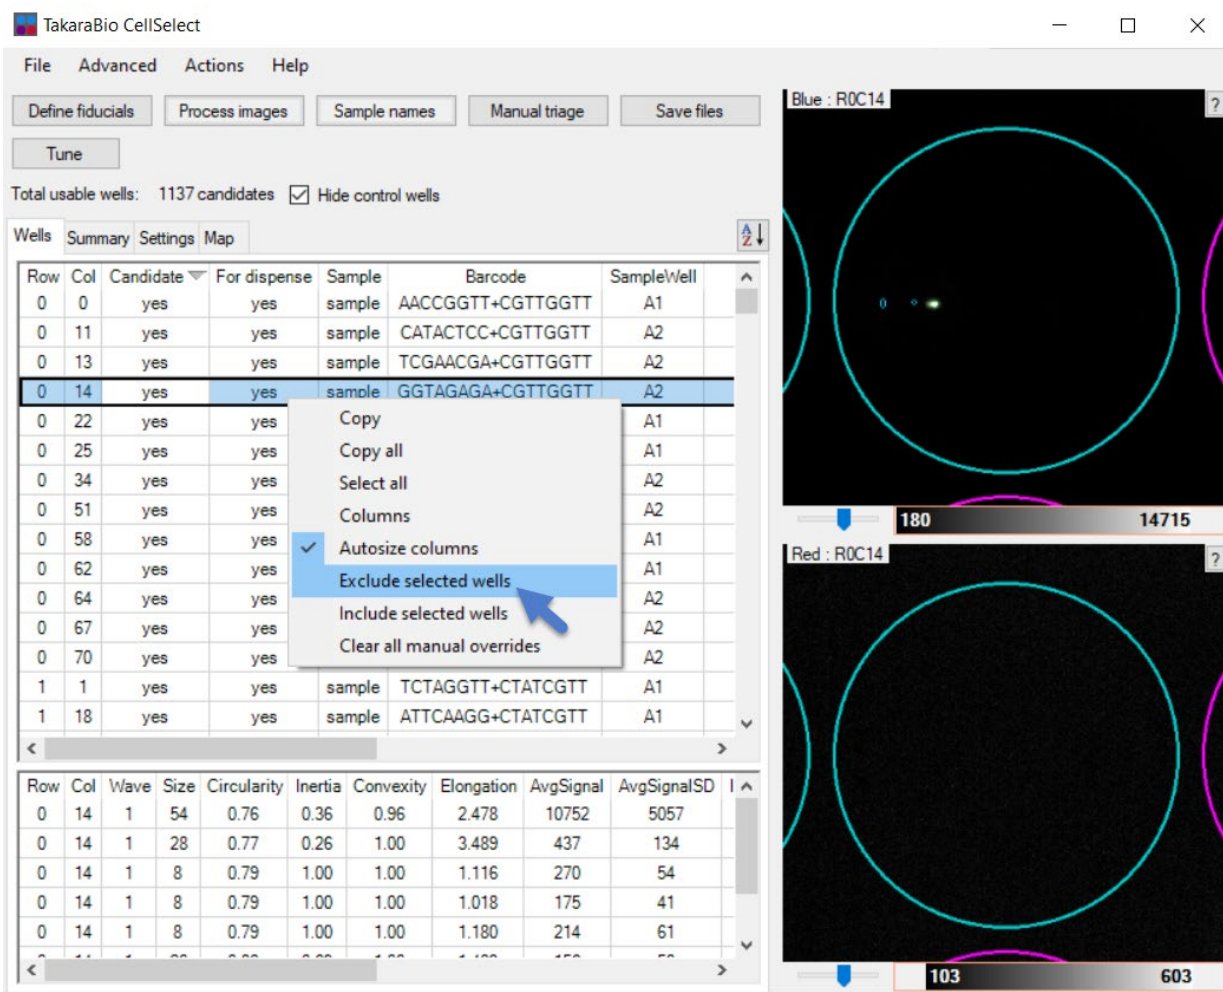

Figure 30. Excluding candidate wells.
4. To manually exclude one or more candidate wells, right-click the highlighted row(s) and select **Exclude selected wells** (see Figure 30, below). To exclude several candidate nanowells or include nanowells the software initially excluded, consider using the manual triage function described in the section below (Section III.G).